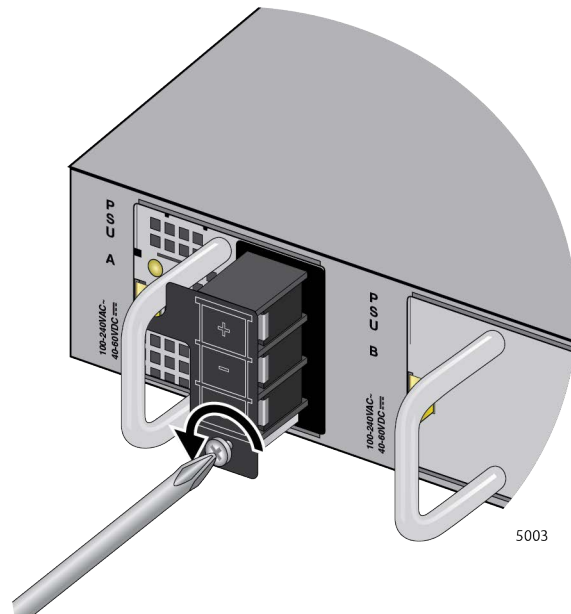

Figure 62. Loosening the Screw for the Panel
- Loosen the screw for the connector panel several turns with a Phillips-head screwdriver. Refer to Figure 62.